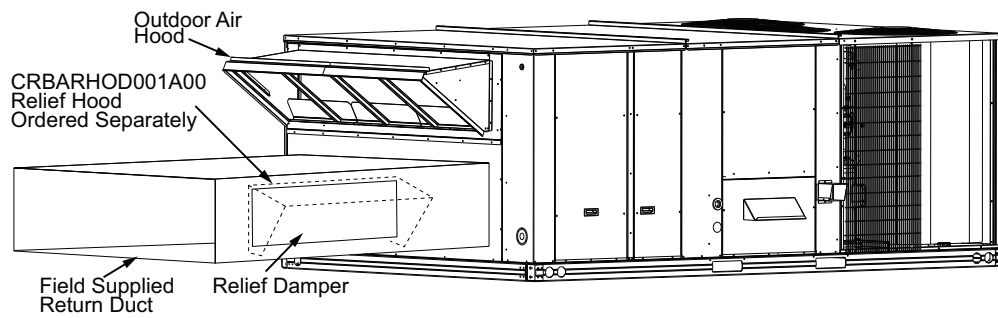

Fig. 16 — Hinges and Damper on Return Duct
The unit has a horizontal duct opening next to the horizontal supply duct opening. However, in this application, with an economizer, the horizontal duct will actually come into the unit underneath the outdoor air hood. (See Fig. 16.)
17. If barometric relief is required, remove the relief damper and hinges from the (provided) bottom panel used on vertical applications. Reinstall the hinges and damper on the side of the field supplied return duct. (See Fig. 16.)